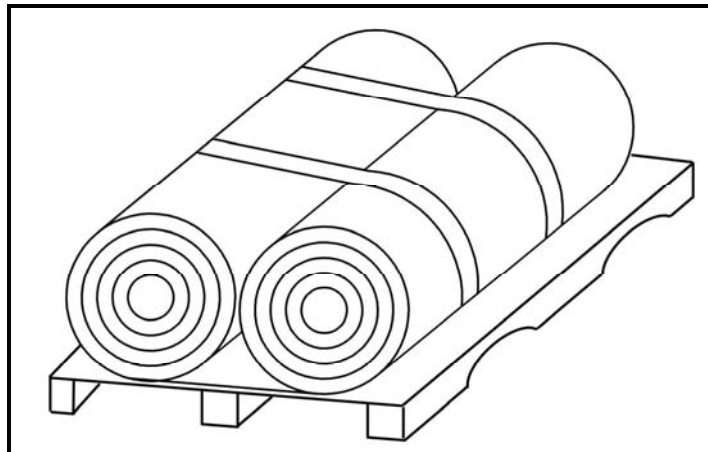

Figure 23. Rolled berm liner on top of crate skids (Depot Only).
12. Place the berm liner onto the crate skids (Depot Only) (Figure 23).